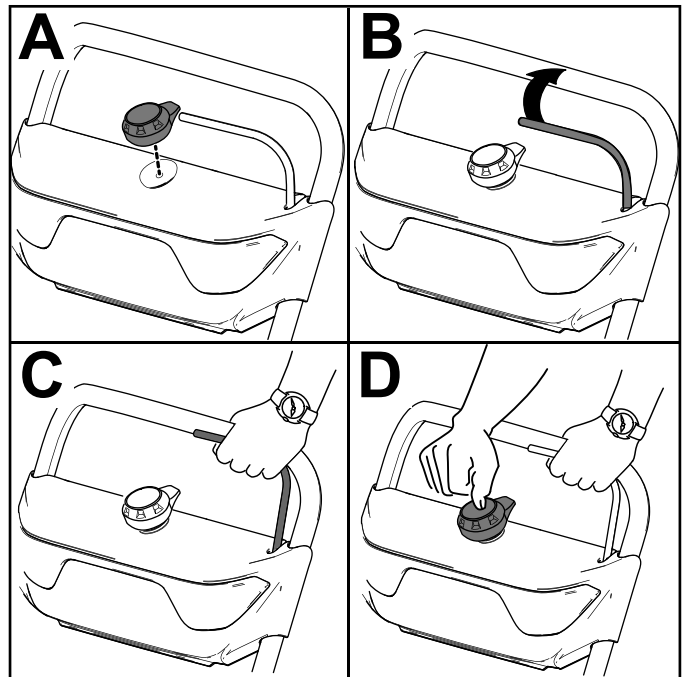

Figure 11
2. Insert the electric-start button into the electric starter (A of Figure 11).
3. Squeeze the bail and hold it to the handle (B and C of Figure 11).
4. Press the electric-start button until the motor starts (D of Figure 11).